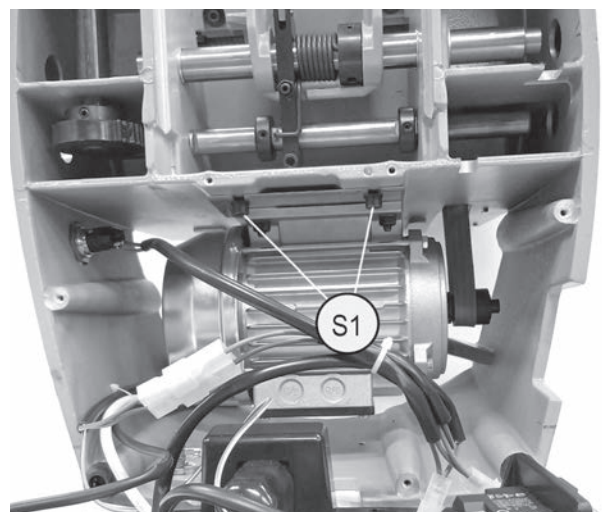

Fig. 58
- 9) Loosen completely only the 2 lower screws (S1) the motor fixing plate and pull downwards (Fig. 58).